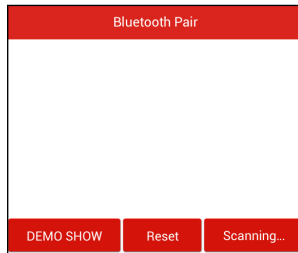

Fig. 5-13
1. Tap the “DEMO” logo, the system will prompt you to make Bluetooth pair firstly (See Fig. 5-13). Since Bluetooth is not required for DEMO program, just tap “DEMO SHOW” to proceed to Step 2.